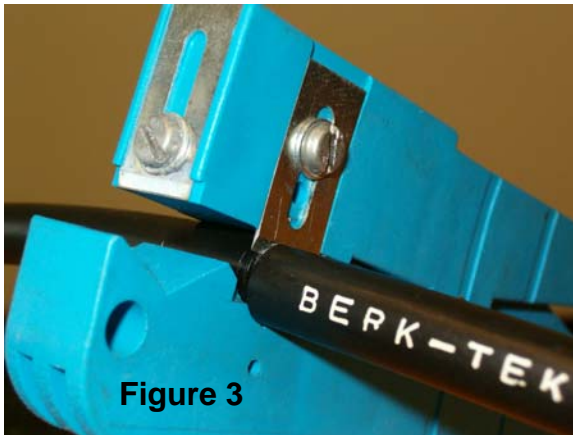

Figure 3
4. While rotating cable stripper, apply steady compression on tool head until cable sheath bottoms out with the tool body. See **Figure 3**.